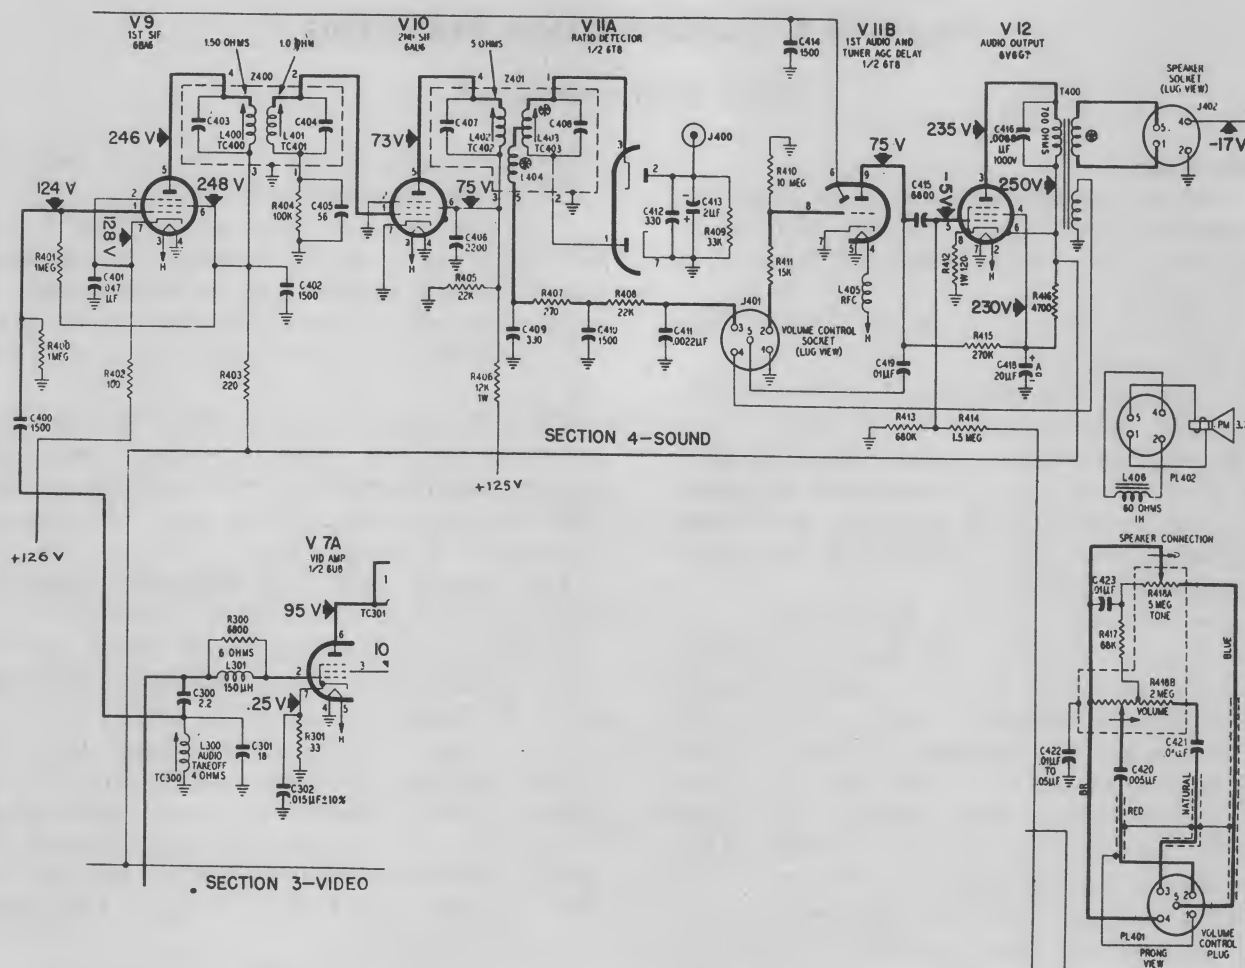

Fig. 7-1. Sound Section: Philco R-201.
a. *Two I-F Amplifiers and Ratio Detector.* Typical of receivers using two stages of i-f amplification and a ratio detector is Philco chassis R-201 (see Fig. 7-1).
facturer has designated as the sound limiter. This tube is comparable in operation to the second i-f amplifiers found in Figs. 7-1 and 7-2. The grid-leak combination consists of C35 and R6. Low plate and screen voltages, coupled with a grounded cathode, are characteristic of limiter operation.
placed across the plate of one diode and the cathode of the other. Across the free plate and cathode of the two diodes is found the *RC* combination which biases the detector. The capacitor in this combination is usually a small electrolytic. The *R* frequently consists of two equal resistors. The center of these two resistors is used for alignment purposes. Refer to Fig. 7-1. R409 is the resistor (*R*) in the *RC* combination.